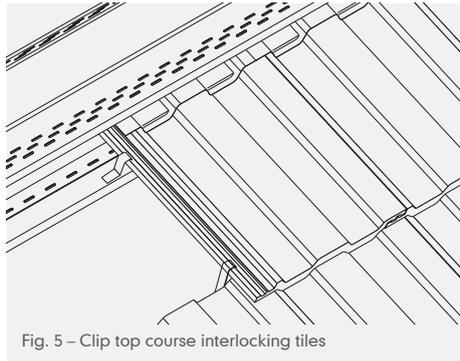

Fig. 5 – Clip top course interlocking tiles
- 8 Insert tile with filler unit into batten section by lifting top flange slightly until nibs engage over upstand and tile is held securely. The ridge filler unit for Modern has raised lugs which fit beneath circular beads on batten sections (Fig. 5).
- 9 Ensure each tile is mechanically fixed by using a standard tile clip located over side lock and nailed to top edge of second course tiling batten (Fig. 5).